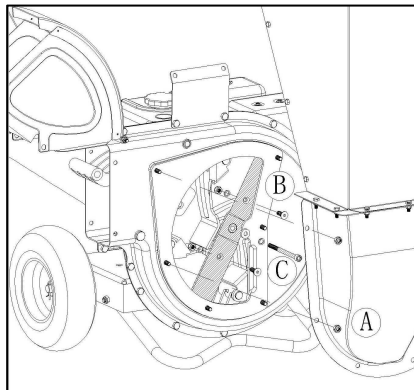

Figure 1-2
2. Remove the two flange nuts (and hex bolts) which secure the hopper support bracket to the impeller housing. Retain the hardware. See Figure 1-2.